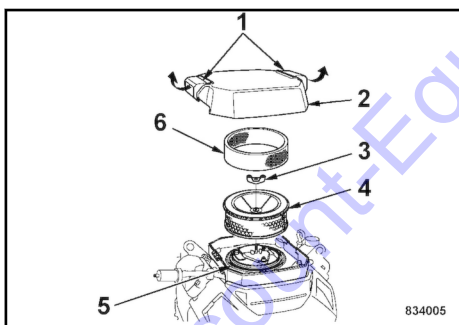

Fig. 167
1. Place the foam rubber element (6) ↳ Fig. 167 on the paper element (4).
2. Reinstall the assembled air filter. Make sure that the seal (5) under the air filter is present.
3. Tighten the wing nut (3). Tighten the screw (3).
4. Attach the filter cover (2) to the air filter housing and secure it with the air filter cover lock (1).